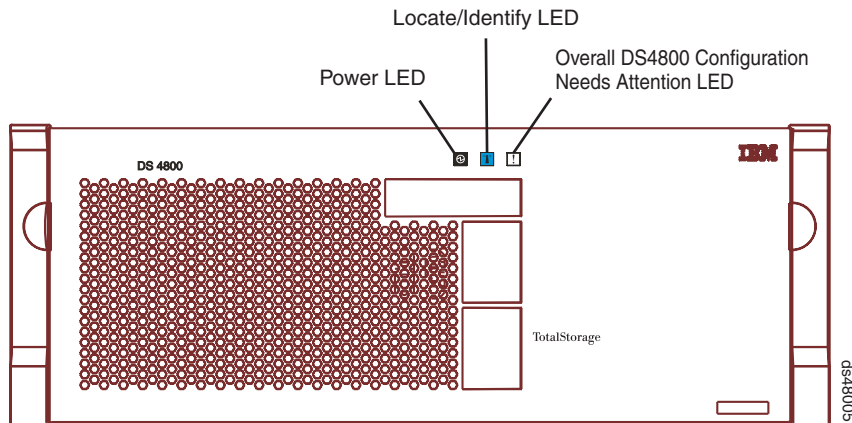

Figure 92. Overall DS4800 Configuration Needs Attention LED on the DS4800 front bezel
2. Locate the storage subsystem that contains the failed power supply and fan unit by checking the Overall DS4800 Configuration Needs Attention LED on the front bezel of the storage subsystem. (Figure 92 on page 156 shows the location of the Overall DS4800 Configuration Needs Attention LED on the front bezel.)